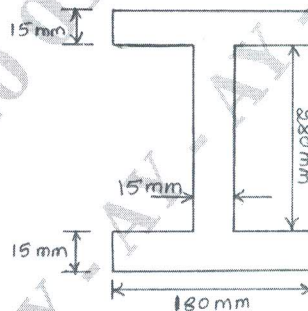

Fig. Q7 (b)
b. The cross section of a beam which is subjected to a shear force of 60 kN is shown in the Fig. Q7 (b). Show the shear stress distribution across the section. (10 Marks)